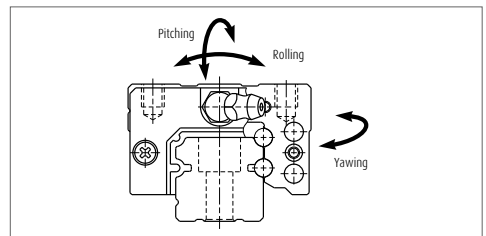

Fig. 3.5 Moment rigidity
- 2) Moment rigidity: Three moment directions, pitching, rolling, and yawing (**Fig. 3.5**).